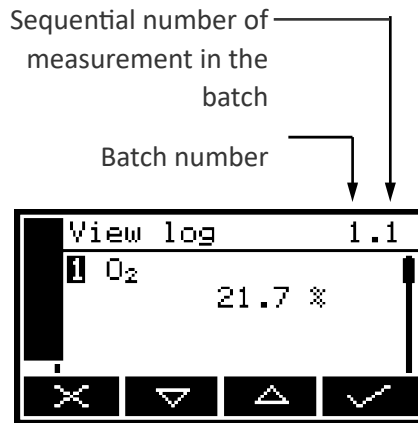
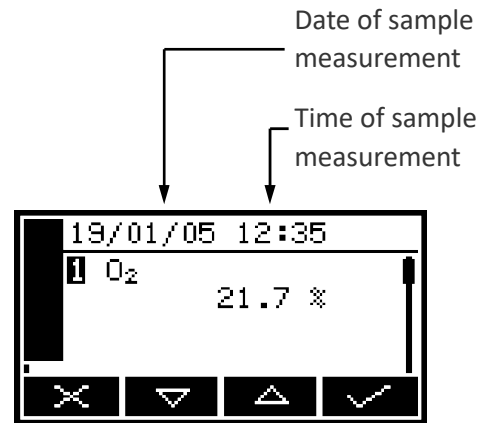

Figure 34: The View log (batch) screen
Figure 35: The View log (date) screen
- Use the  and  soft keys to highlight the "View log" option, then press the  soft key. The View log (batch) screen is then displayed, alternating with the View log (date) screen: see Figure 34 and Figure 35.